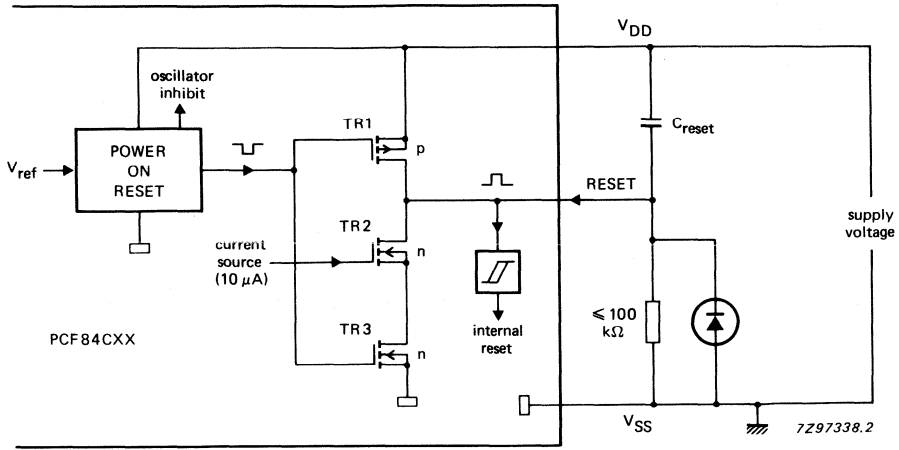

Fig. 25 Stretched power-on-reset with external components.
2. If  $V_{DD}$  has a slow rise time then the RESET signal should be stretched by an external RC circuit (see Figs 25 and 26). In the event of a short drop in the supply voltage, the diode path rapidly discharges the capacitor to ensure a reliable power-on-reset. To ensure a correct reset, the RESET signal should reach at least 70% of the final value of  $V_{DD}$ . Given that the RESET voltage and  $V_{DD}$  rise exponentially, the above requirement is satisfied when the time constant  $\tau$  of the RESET pulse is  $> 8$  times the time constant of  $V_{DD}$ . If  $V_{DD}$  rises linearly, then a RESET time constant  $> 2$  times the rise time of  $V_{DD}$  is required.